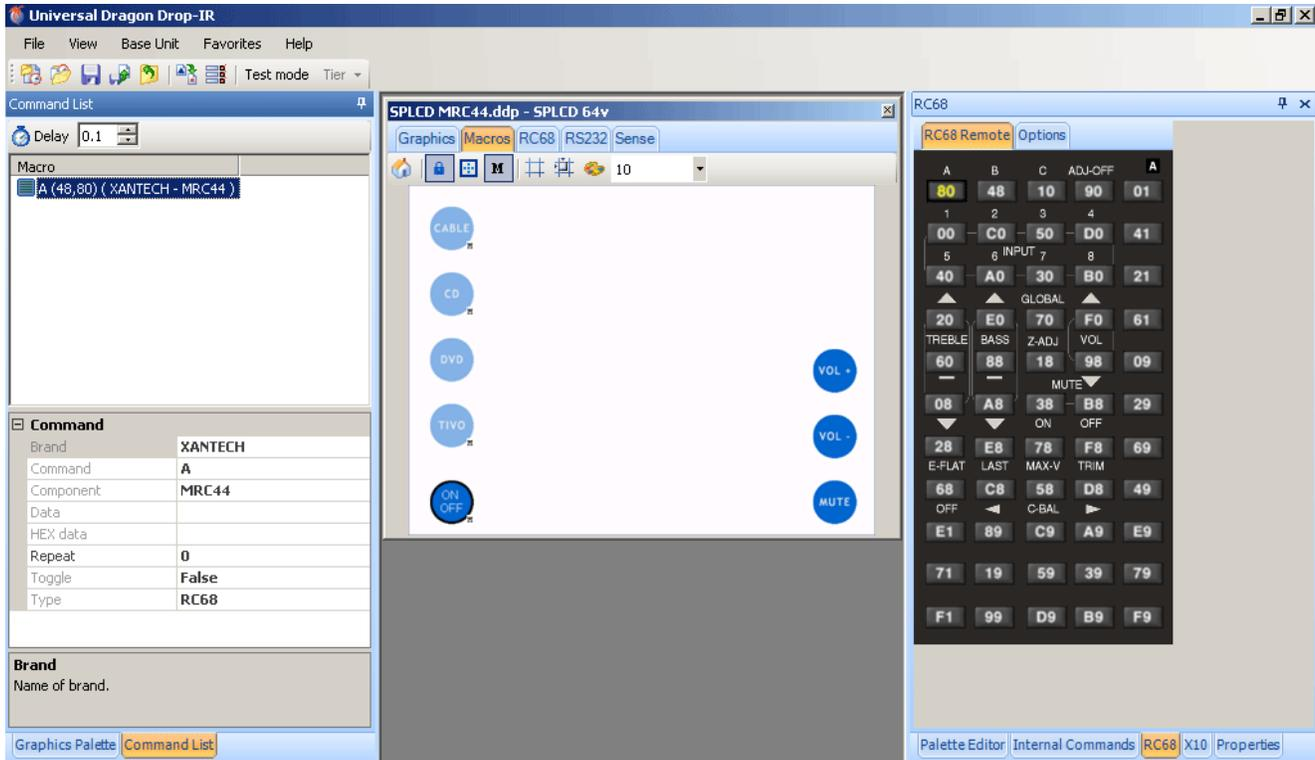
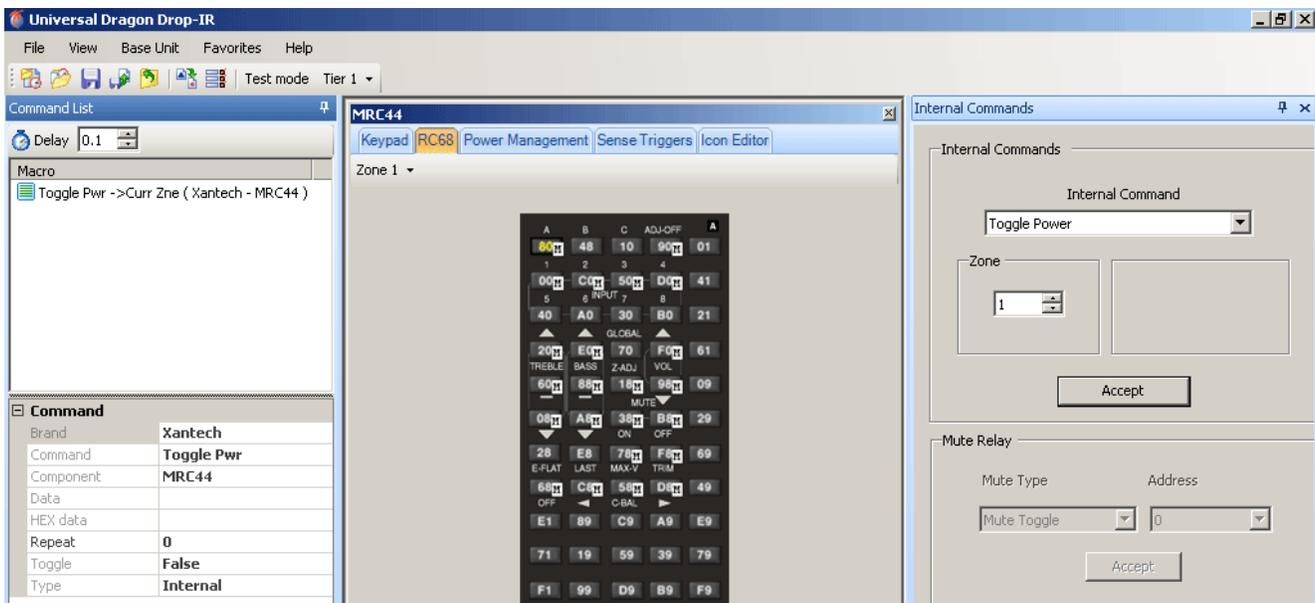

Figure 58 - SPLCD-MRC44 Zone Toggle Power Programming
Figure 59 – MRC44 Toggle Power Programming
**NOTE:** To create **Toggle Power** or **Mute Commands**, program the **MRC44** using the **Toggle Power** or **Mute Internal Amplifier Commands** as **RC68 Triggered Sequences**. (See: **MRC44 Installation Instructions; RC68+ IR Code Triggered Sequencer**) See **Figure 58** below. Place the **RC68 IR Trigger Commands** that are
associated with the Internal Amplifier Commands in the MRC, under the appropriate **GTL Buttons** when programming the SPLCD. (**Figure 58**) (i.e. In the **SPLCD** programming, the **ON/OFF Source GTL** will have the **RC68 80 Command** in the **48 Code Group** placed under it as an **IR Command** that will be output to the **MRC**. The **RC68 80 Command** in the **48 Code Group** will be configured in the **MRC** as a **RC68 Trigger**, so when the **80 Command** is received by the **MRC**, it will execute the **Zone Toggle Power Command**. (**Figure 59**)